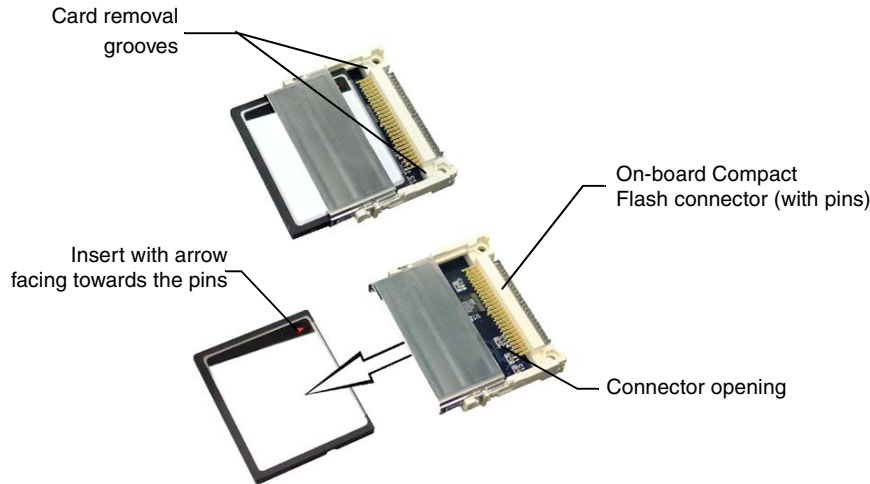

FIG. 20 Removing/installing a Compact Flash Memory card
2. Insert the tip of a grounded flat-head screwdriver into one of the card removal grooves (located on either side of the existing card), and gently pry the card out of the slot (FIG. 20). Repeat this process on the opposite card removal groove. This alternating action causes the card to "wobble" away from the on-board connector pins.